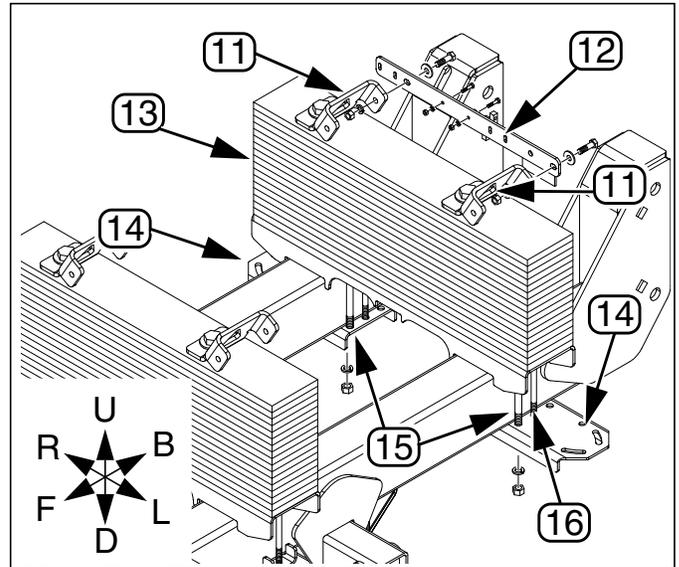

Figure 9
Refer to Figure 9
1. If you have the double shoot 6in 80-row model: Remove double shoot blockage module mount (12) keeping DICKEY-john® module attached and save along with any hardware to remount. This will be remounted in Step 5 to the angle tower bracket.
2. Remove the $\frac{5}{8}$ x9in bolts (15) at either end of the two center tower mount brackets (14) that the rear weight stack (13) is bolted to (only left frame side is visible in Figure 9). The U-bolt (16) remains permanently attached.
3. Secure lifting hooks or chains to the two mounts (11) on the top of the rear weight stack. (Take up slack gradually to avoid deforming mounts. Minimize load sway to avoid damage to nearby objects and the drill.)
4. Hoist rear weight stack (13) up and away from implement and place in storage along with all associated hardware.